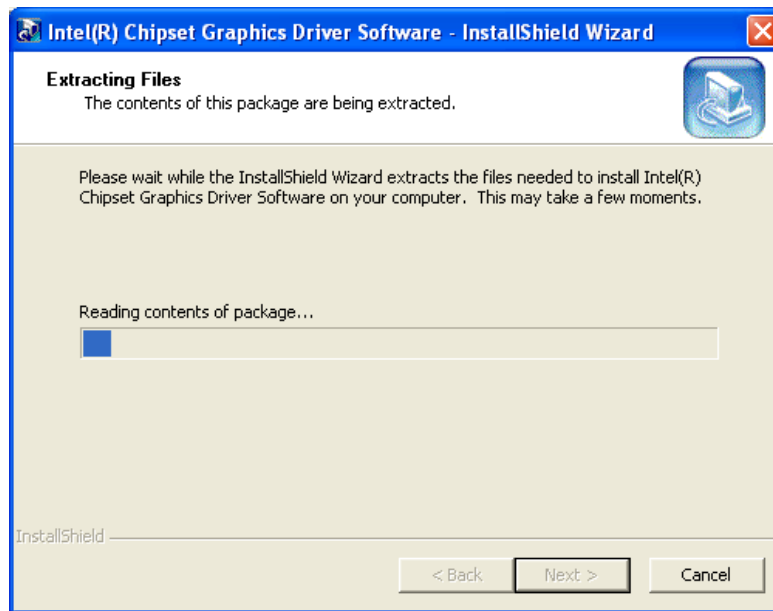

Figure 7-8: Graphics Driver Setup Files Extracted
- Step 6:** The installation files are extracted. See **Figure 7-8**.